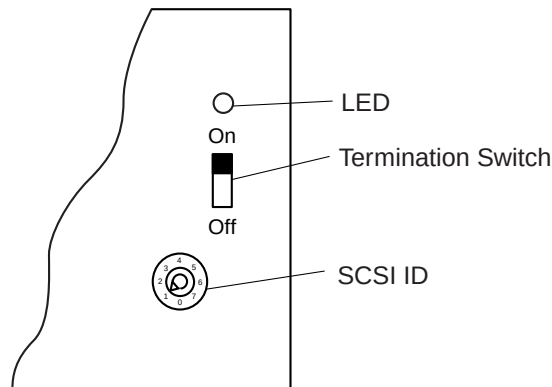

Figure 12 Cutaway of DASM bottom, showing Termination Switch set to ON
- 3.) Set the termination switch on the bottom of the DASM to the ON position (see Figure 12).